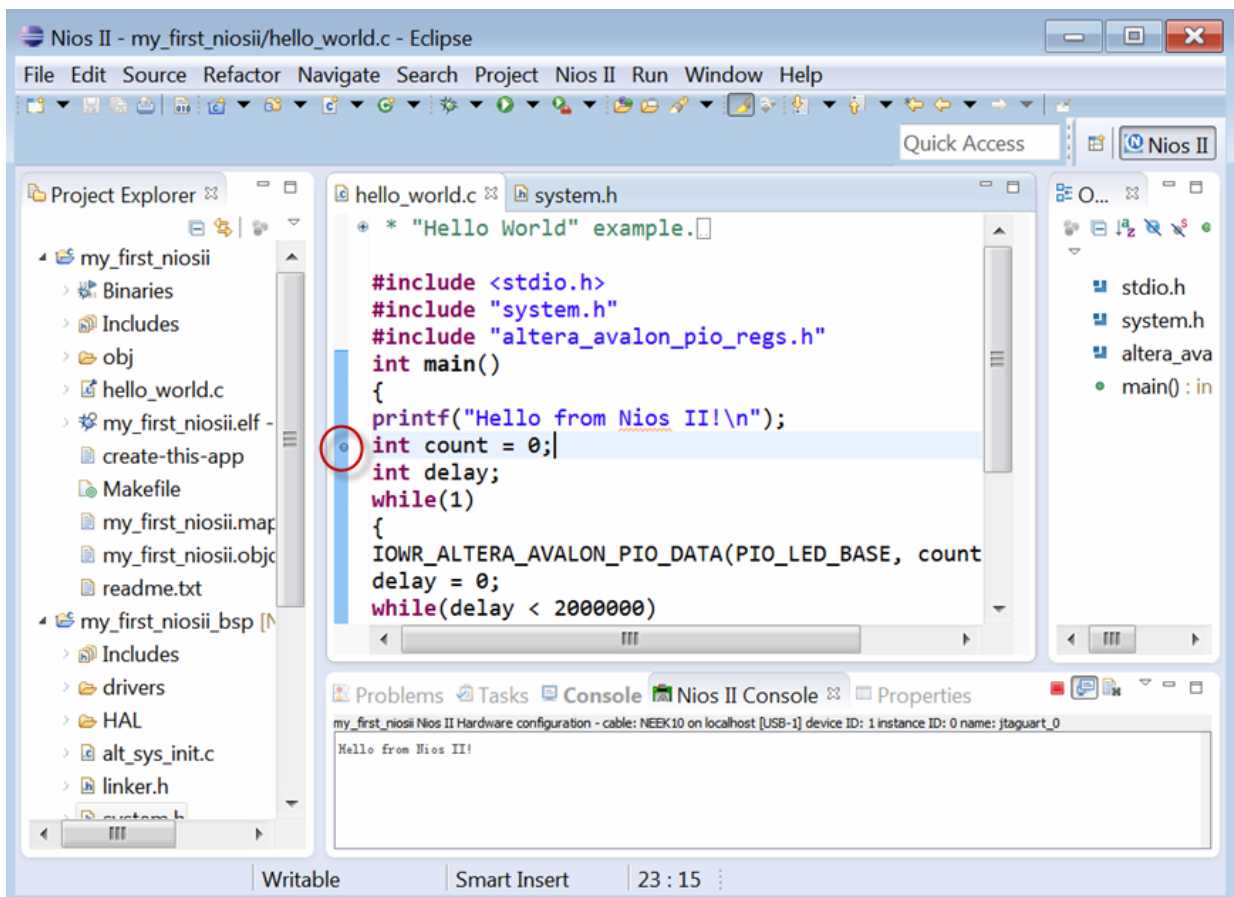

Figure 2-7 Set a breakpoint
1. Set a breakpoint by double clicking the front of which line to be observed in **hello_world.c**, as shown in **Figure 2-7**.
3. Observe which memory has been assigned for Program memory(.text), Read-only data memory(.rodata), Read/write data memory(.rwddata), Heap memory, and Stack memory in the Linker Script box, as shown in **Figure 2-7**. These settings determine which memory is used to store the compiled executable program when running the my_first_niosii program. Users can specify which interface to be used for stdio , stdin, and stderr. Users can also add and configure a RTOS for users' application and configure build options to support C++ or reduced device drivers, etc.